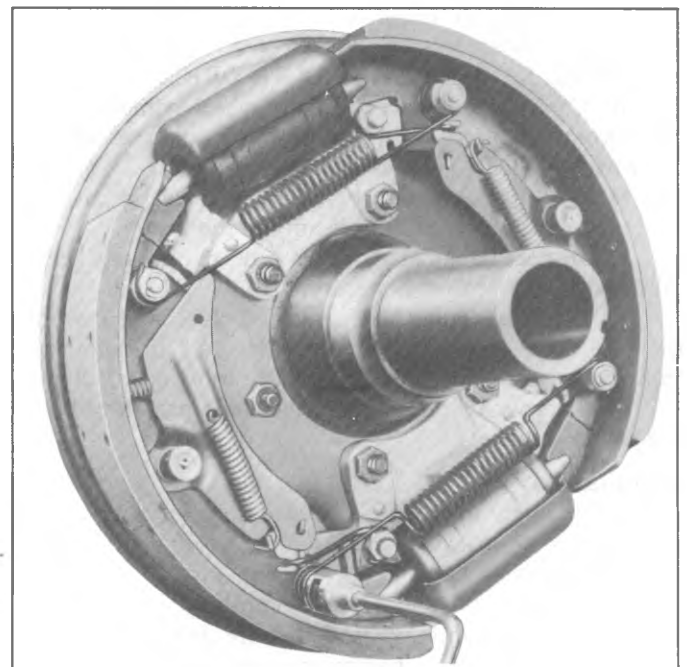

Fig. 5-48--Removing Pull Pack Spring with Tool J-22348
3. Using Tool J-22348, remove the brake shoe pull back springs (fig. 5-48).